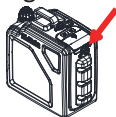

Fig.21
2. Close the outlet port as shown in Fig.21